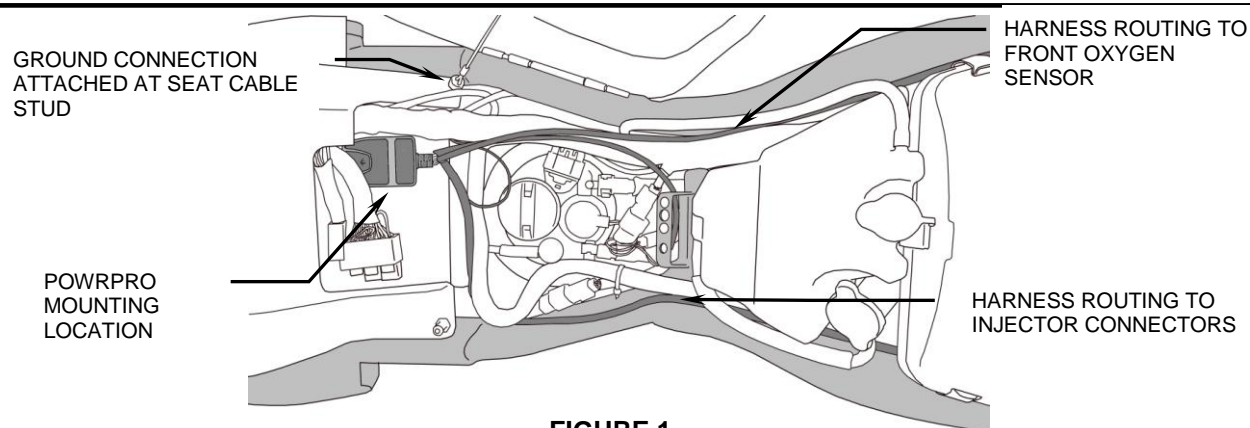
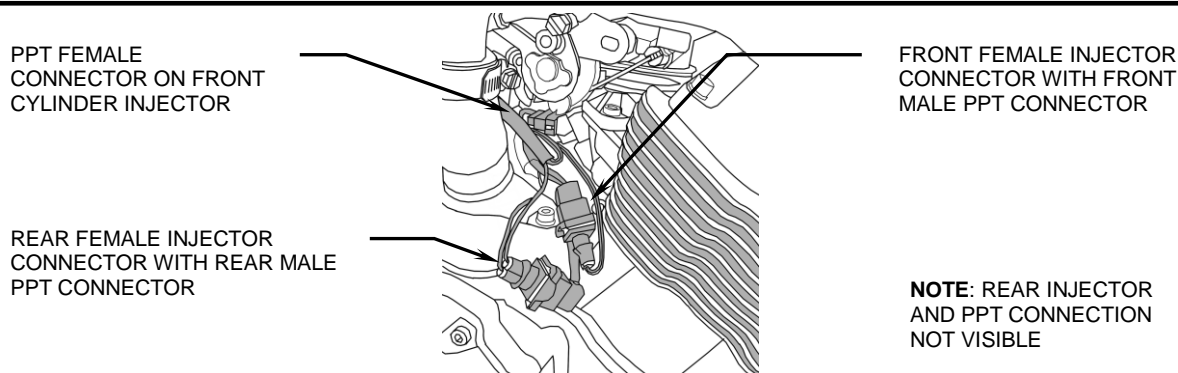

FIGURE 1
FIGURE 2
3. Place Powrpro Tuner™ (PPT) in under-seat area, run fuel injector connector harness up right side frame rail between top right frame rail, and radiator overflow tank, see Figure 1. At the rear of the airbox, route the harness below the airbox, and downward next to the inner radiator hose. Unplug both stock fuel injector connectors, on the front and rear injectors between the engine cylinders, see Figure 2. These are disconnected, by depressing the metal springs that are on the end of each female connector. The stock female connectors are marked "F" and "R", noting which connector goes to the front and rear injector, be sure to pay attention to this. Now connect the male PPT connector labeled "FRONT" on the black sheathing to the front female H.D. connector. Plug the other PPT male connector into the stock rear female H.D. connector. Then plug the female PPT connector labeled "FRONT" on the black wire sheath onto the front stock H.D. injector. Plug the other PPT female connector onto the rear injector. Tuck all connectors neatly under injectors. Route harness next to water pump hose and along existing harness on frame rail. Pull slack out of harness leaving a little extra near injector connectors. Secure harness to water pump hose using (1) 8 inch zip tie and along right upper frame rail towards seat, using (3) 4 inch zip ties to existing harness.
7. Remove hex nut securing plastic shroud near seat cable, see Figure 1. Place ground terminal on stud and tighten nut securely.
8. Remove the backing from the Velcro and attach the Powrpro Tuner to the frame cross member as shown in Figure 1.